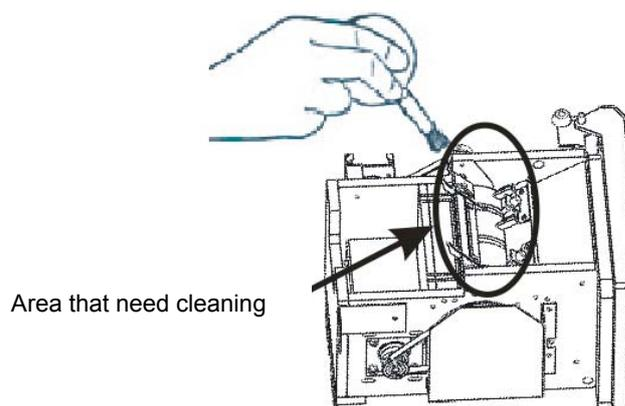

Figure 8-27
- 2) Clean the pathway areas with the pump (Figure 8-27).